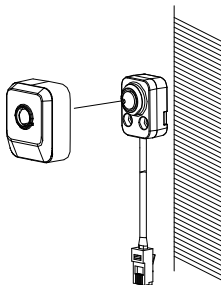

Figure 2-12 Hood the Cover
5. Shield the sensor unit with the decorative cover. As shown in Figure 2-12.